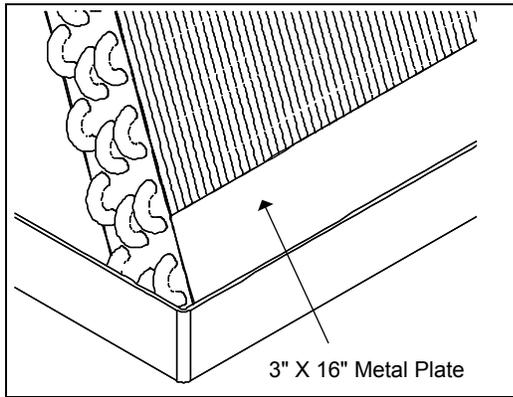

Fig.9. Plates required in counter flow application
- Place the 3" x 16" counter flow plates at the outside bottom of the coil as shown in FIG. 9.